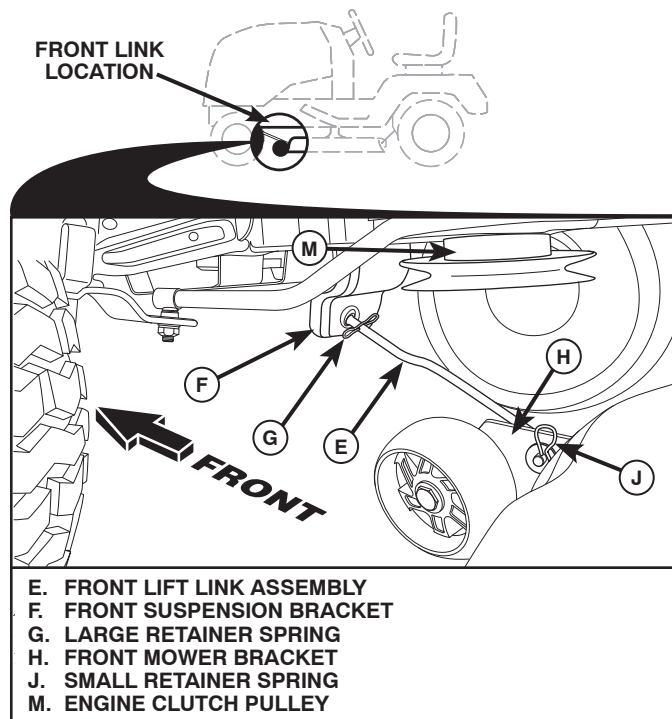

Fig. 10
8. ATTACH FRONT LINK (E) (See Fig. 10)
- From front of tractor, insert rod end of front link (E) through front hole in tractor front suspension bracket (F).
- Move to left side of mower and insert large retainer spring (G) through hole in front link (E) behind front suspension bracket (F).
- Insert other end of link (E) into hole in front mower bracket (H) and secure with washer and small retainer spring (J).